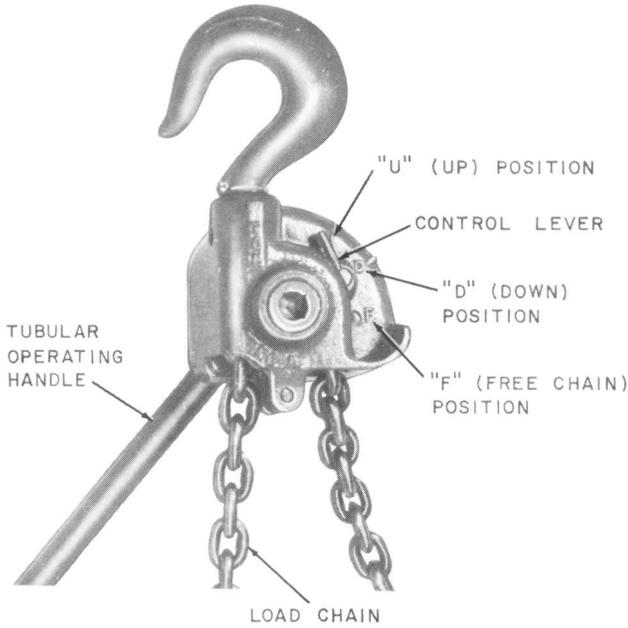

Fig. 3—Control Lever
4.01 To obtain free chain with no load, turn control lever (Fig. 3) to F (Free) and raise handle slightly. Chain may now be moved in either direction.
4.02 To lift the load (or apply tension), turn control lever (Fig. 3) to U (Up) and actuate handle. Slack may be removed from the chain by pulling the ring end of the chain.
4.03 To lower the load, turn control lever (Fig. 3) to D (Down) and actuate handle. The control lever will oscillate during the lowering operation.